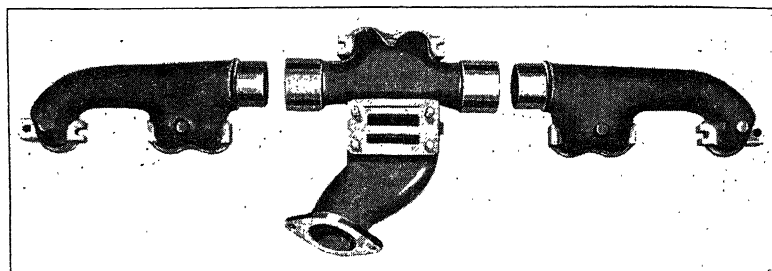

Fig. 7. Buick Three-Piece Exhaust Manifold
**Buick Exhaust Manifold.** Fig. 7 illustrates the three-piece exhaust manifold used by Buick automobiles. The center section is used to carry the exhaust manifold valve which controls the amount of heat furnished to the carburetor riser, this being supplied through the slots appearing on the face of the manifold. The